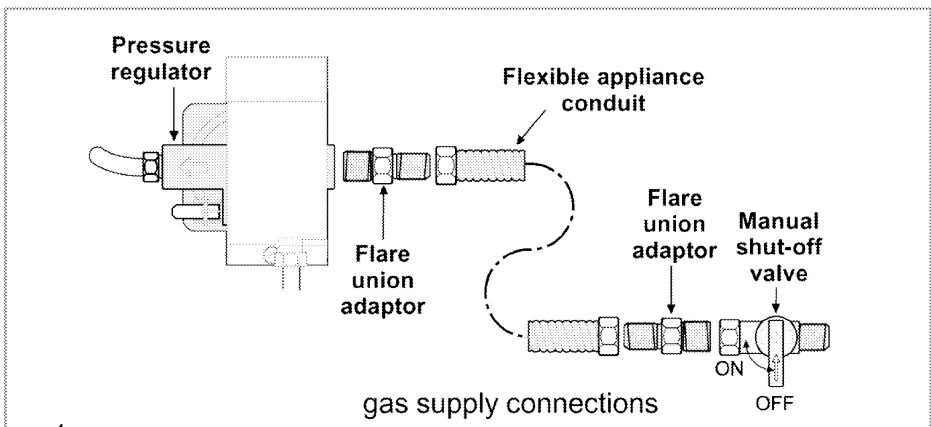

Figure 4
**NOTE:** The installer should inform the consumer of the location of the gas shut-off valve. Flexible Connector Method (see Figure 4)
### Rigid Pipe Method (see Figure 4.)
The configuration of the rigid pipe connection will vary depending on the location of the gas pipe stub. Refer to Figure 4 for details.